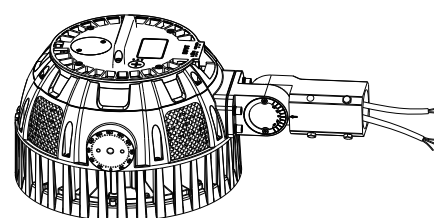

Figure 4
Step 2: Install the bracket on the fixture. (Figure 4)